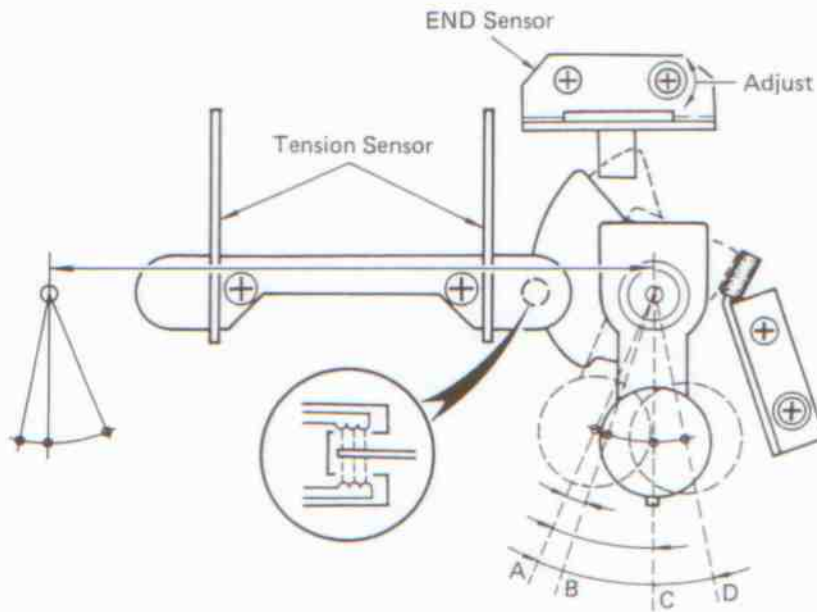
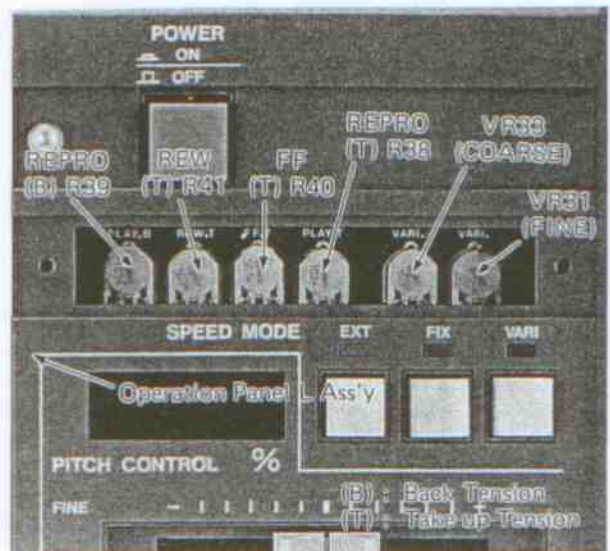
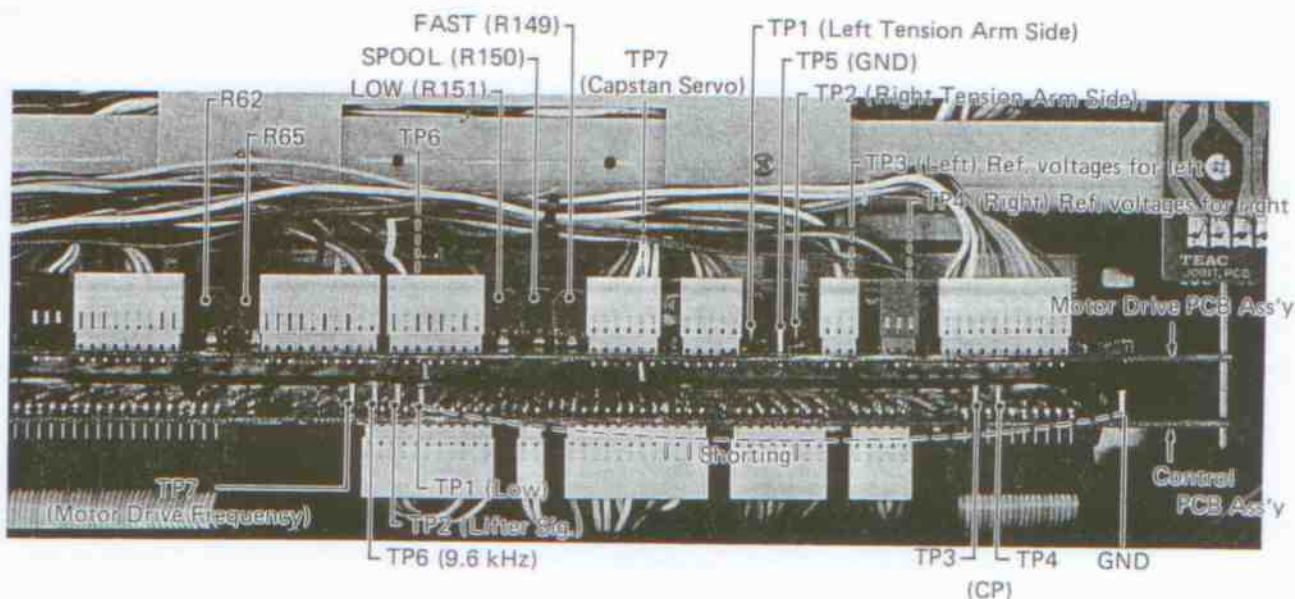
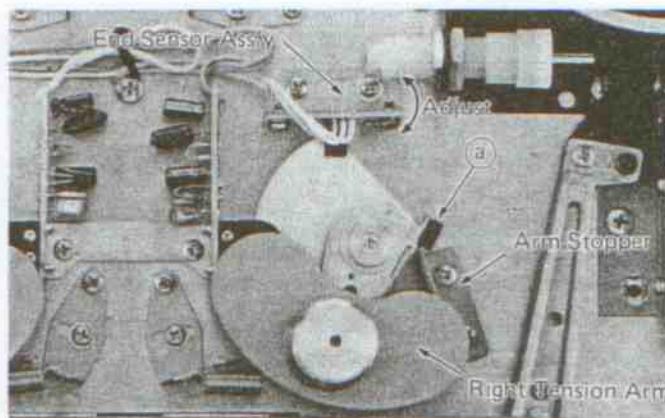

Fig. 7-14. Moving Position of Tension Arm Ass'y
Fig. 7-15. Tape Tension Servo, Tape Speed
Fig. 7-17. Control PCB Ass'y and Motor Drive PCB Ass'y
Fig. 7-18. Adjustment Position of the Arm Stopper, the End Sensor Ass'y
The movement of the tension arm between A – C in Fig. 7-14 causes the voltage at TP-1 (left tension sensor output voltage) and TP-2 (right tension sensor output voltage).
1. Remove the front panel assembly as described in 7-4-1 (B).
3. With the deck in the edit mode, confirm that both tension arms are near the C position shown in Fig. 7-14 – about 22.5° from the free position A.
4. If adjustment of the angle is necessary, adjust by adjusting the trimmer resistor located on the upper part of the Operation Panel L assembly. Refer to Fig. 7-15.
1. Load a tape and run it in fast forward. Check that the tension arm on the take-up side stabilizes at the C position shown in Fig. 7-14. If it does not, correct it by adjusting FF(T), R40 shown in Fig. 7-15. Then, run the tape in rewind and check, as in fast forward, that the tension arm on the take-up side stabilizes at C. If it does not, adjust REW(T), R41.
1. Connect an oscilloscope between TP3 and GND on the Control PCB Ass'y, Fig. 7-17.
Adjust the mounting position of the arm stopper so that it reaches point (a) in Fig. 7-18 with tape unloaded (no tension applied to the tension arm: i.e., the right tension arm rests at point A in Fig. 7-14.).
1. Connect an oscilloscope (double trace type) to two sets of test points, TP3 and GND, and TP4 and GND, on the Control PCB Ass'y, Fig. 7-17.
- b. Connect the frequency counter to TP6 and GND on the Control PCB Ass'y, Fig. 7-17. Then, while keeping an eye on the frequency counter, adjust VR33 (COARSE) shown in Fig. 7-15 until a 9,600 Hz ± 15 Hz reading is obtained, and then fine-adjust VR31 (FINE) to 9,600 Hz.
1. Prior to making any adjustments to the capstan servo, connect an oscilloscope between test point TP7 and GND on the Motor Drive PCB Ass’y, Fig. 7-17; set R65 and R62 to their center positions and place the deck in play mode with a tape loaded.